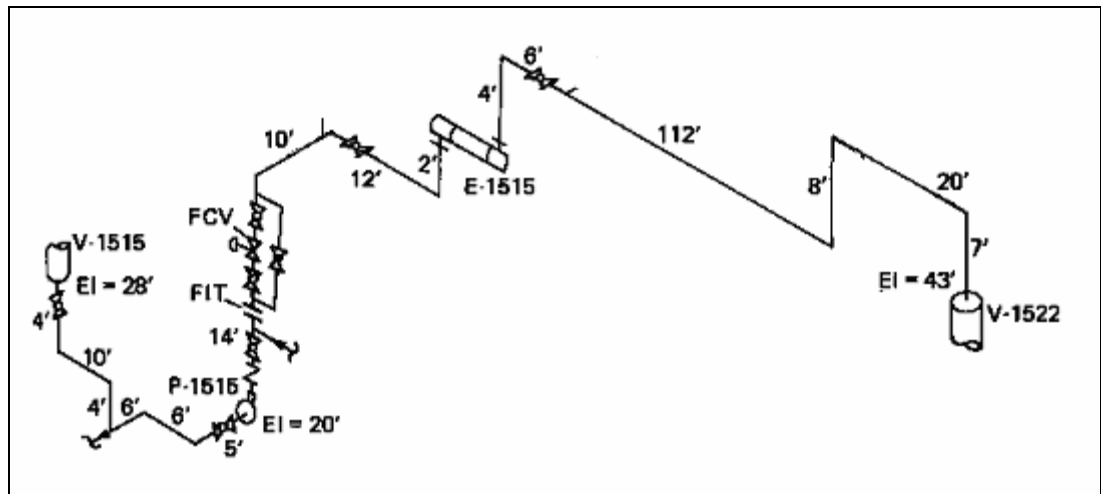

Figure 11-57: Piping isometric for this problem
1. Convert the piping isometric in Figure 11-57 to a CHEMCAD flowsheet. Pipe UnitOps are used to represent entire sections of piping, including fittings: